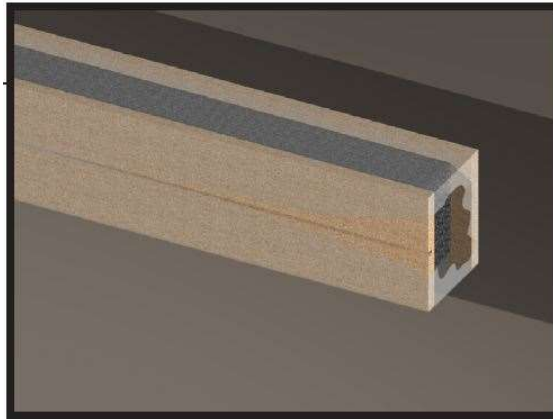

Figure 5
- **WARNING:** Be prepared to install the material immediately once the packaging is removed to prevent the material from expanding past the joint width. See **Figure 5**